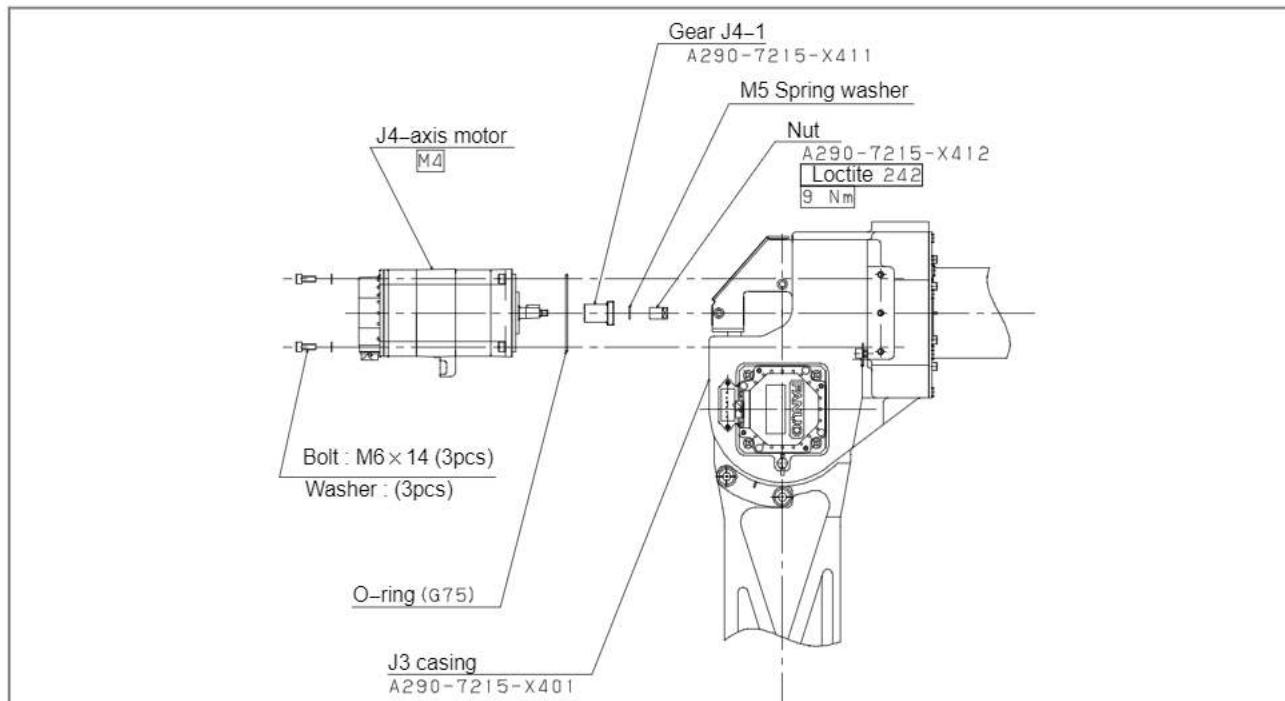

Fig 6.7 Replacing the J4-axis motor
- 4 As shown in Fig. 6.7, remove the three M6 × 14 bolts that fasten the J4-axis motor to the J3 casing (A290-7215-X401), and dismount the motor.